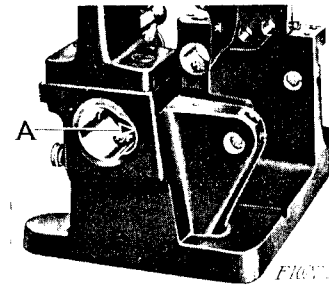

FIG. 30
Loosen the two set screws (CC) in feed lifting eccentric, loosen the two small set screws (DD) in feed eccentric (the two larger screws are used for regulating the length of feed). Take out the tip set screw indicated at E. Turn the shaft so that the ball of the crank will pass through the clearance in the casting (A, Fig. 30). Tap gently with a mallet at the left end of the shaft and withdraw the shaft with balance wheel and bushing (G) as shown above.
Turn the shaft so that the ball of the crank will pass through the clearance in the casting (A, Fig. 30). The hole in the flanged bushing for the tip screw can be seen through the tapped hole (E, Fig. 12) in the casting. Insert the tip screw and firmly tighten it.